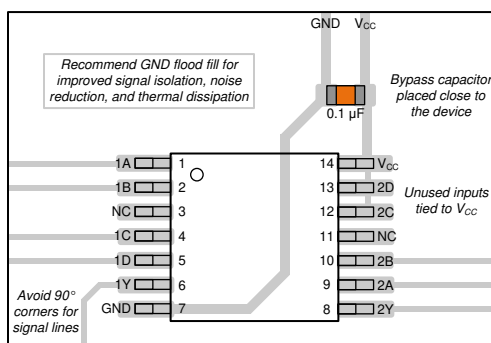

Figure 11-1. Example layout for the CD74HCT21
1. Add a decoupling capacitor from V_{CC} to GND. The capacitor needs to be placed physically close to the device and electrically close to both the V_{CC} and GND pins. An example layout is shown in Figure 11-1.
The power supply can be any voltage between the minimum and maximum supply voltage rating located in the Section 6.3. Each V_{CC} terminal should have a bypass capacitor to prevent power disturbance. A 0.1- μ F capacitor is recommended for this device. It is acceptable to parallel multiple bypass caps to reject different frequencies of noise. The 0.1- μ F and 1- μ F capacitors are commonly used in parallel. The bypass capacitor should be installed as close to the power terminal as possible for best results, as shown in Figure 11-1.